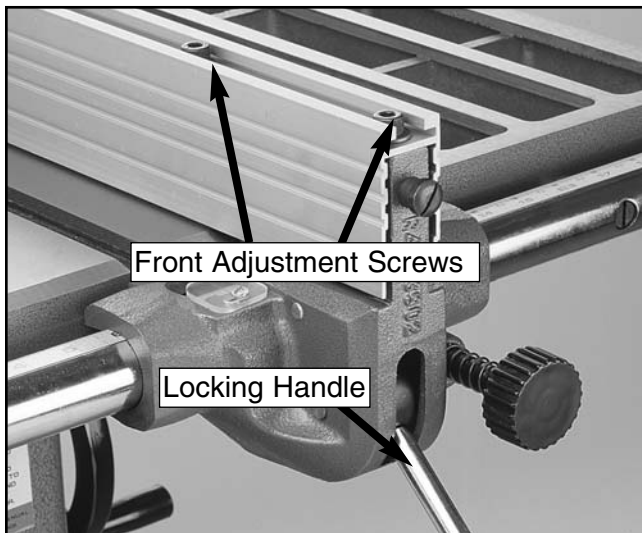

Figure 32. Adjustment bolts for fence parallelism.
6. Loosen the locking handle (**Figure 32**) until it is approximately two-thirds engaged.